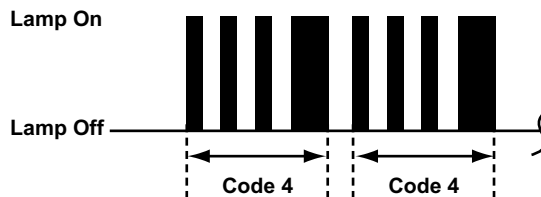

Figure 7-19 ABS diagnostic code pulse
- ABS codes, see Figure 7-19
Geo ABS codes flash in a straight count with one long flash at the end (Figure 7-19). The code repeats, only one code is stored.